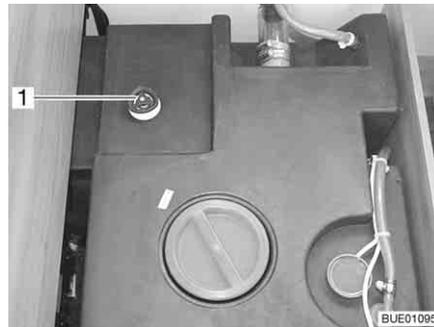

Fig. 240 Water tank with handle
- Turn the handle (Fig. 240,1) on the water tank in a clockwise direction as far as it will go.
- Turn the handle (Fig. 240,1) on the water tank in an anticlockwise direction as far as it will go. Excess water will drain away leaving 60 litres in the tank.